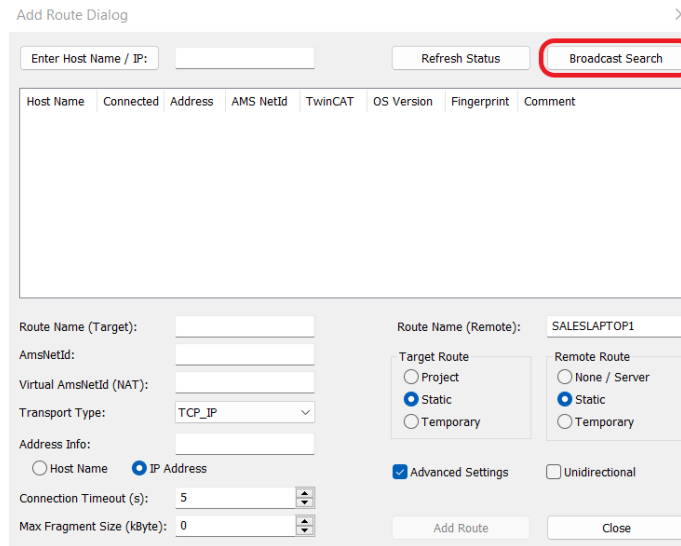

Figure 28: Static Routes – ‘Add Route Dialog’ window, advanced settings
- Once ‘Advanced Settings’ are enabled, click on ‘Broadcast Search’ in the top right of the window – highlighted in Figure 28 below – to have your computer scan you network for available HEAT VIEW controllers.